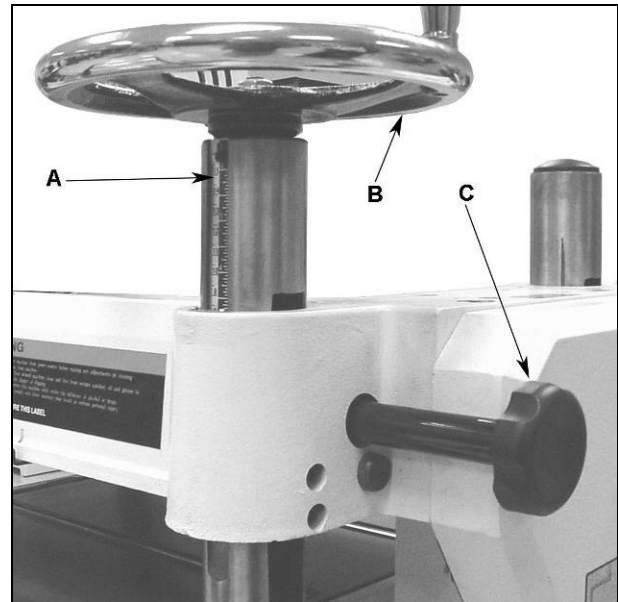

Figure 19
Refer to Figure 19.
**Note:** The JWP-160S Planer has two lock knobs; one is located by the handwheel (C, Fig. 19). The other is located on the opposite (left rear) corner.